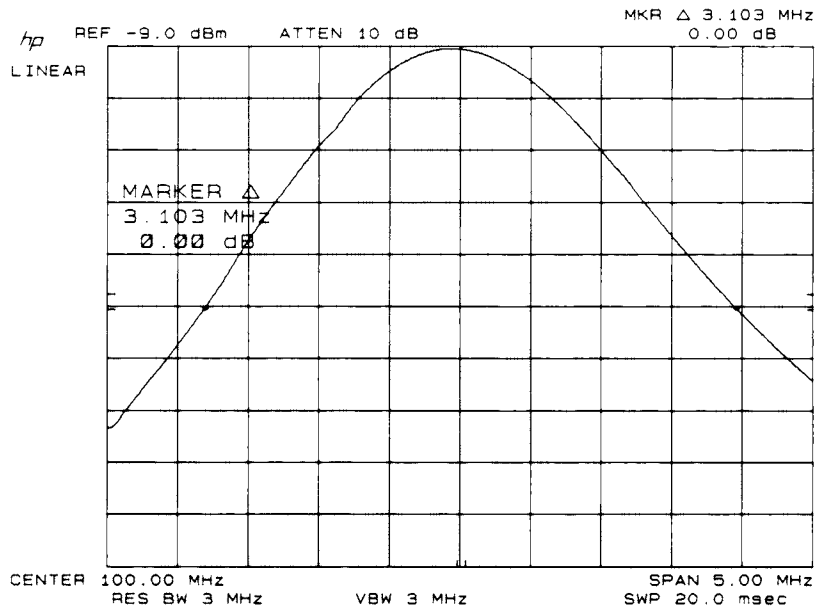

Figure 4-3. 6 dB Resolution Bandwidth Measurement
45. Press MARKER (Δ) and position movable marker 6 dB down from the signal peak on the negative going edge of the trace (the MARKER (Δ) amplitude readout should be 0.00 dB ±0.05dB). The 6 dB bandwidth is given by the MARKER (Δ) frequency readout. (See Figure 4-3.) Record in Table 4-2.